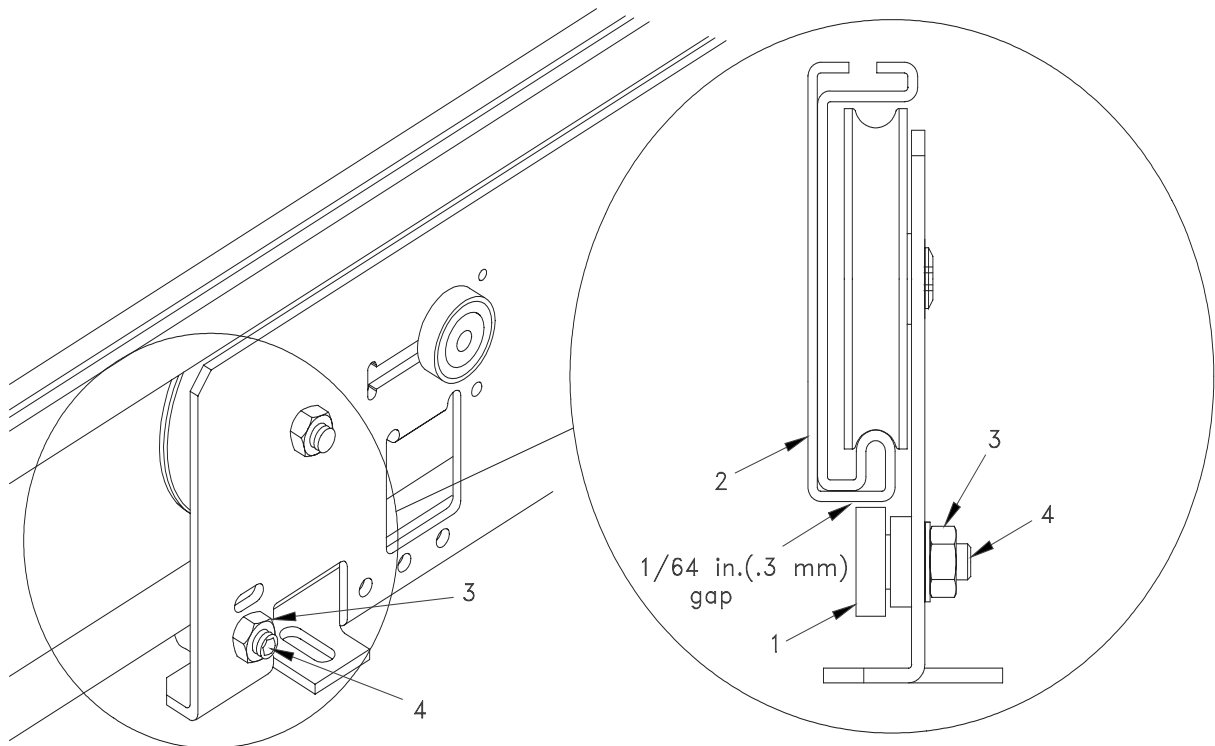

Figure 43 Verify Gap Between Roller and Rail
1. Verify the gap between the eccentric roller (1) and the rail (2) is 1/64" (0.3 mm). See Figure 43.
3. If the eccentric roller (1) needs adjustment, loosen the nut (3) and use an Allen wrench to turn the roller shaft (4),